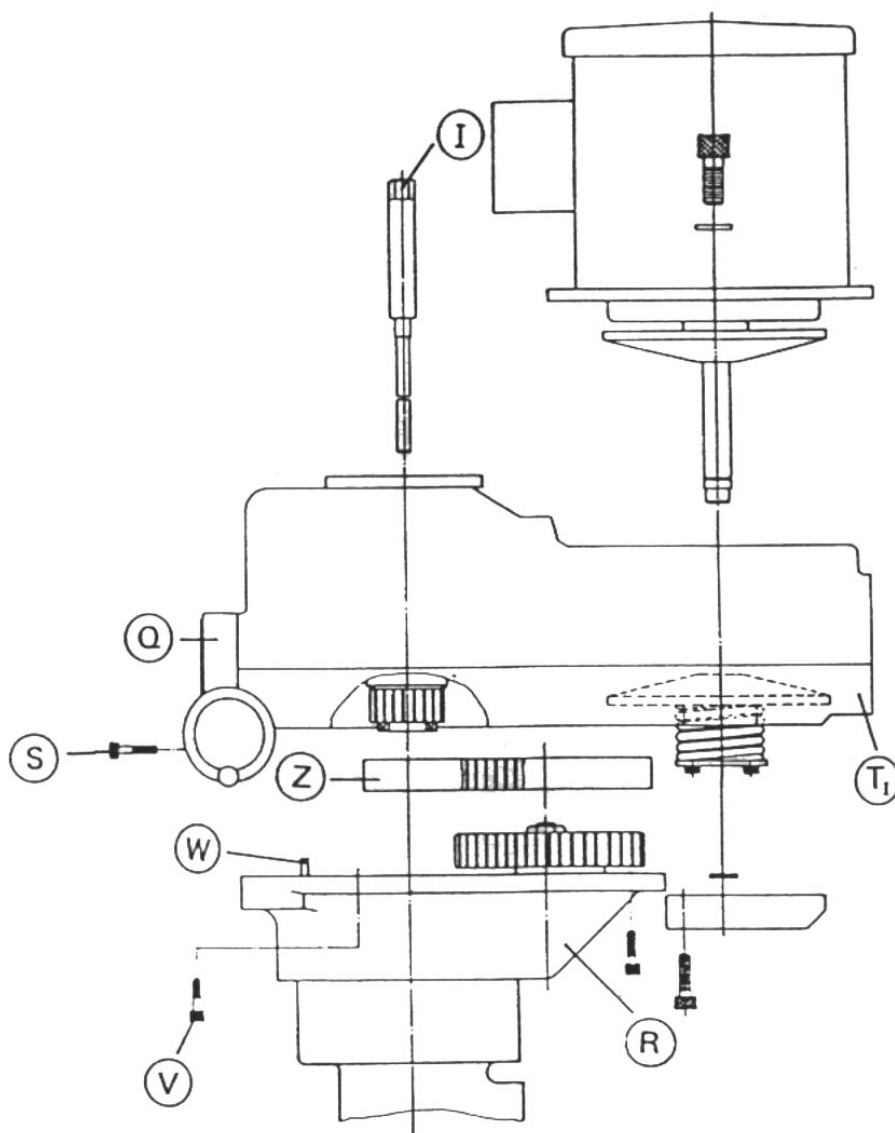

FIG9-4
- c. As shown in figure 9-4, take off the connected gear housing (R) and the four hexagonal concave bolts (V) bottom belt housing (T1).
- d. Use a soft mallet and hit the bottom belt housing lightly to disengage it with the fix pin (W) to dismantle the bottom belt housing (T1) as shown in figure 9-4.
- e. Take off the hexagonal concave bolt (X) of the two setting bearing housing and remove the front vari-disc assembly set (E1). Brake block (Y) can be replaced then.
- b. Refer to step B to G speed change belt replacement to take off the dismantling of bottom belt housing and change the timing belt as shown in figure 9-4.
- c. Refer to step C to D on p.28 replacement of brake block for the dismantling of bottom belt housing and change the timing belt as shown in figure 9-4.